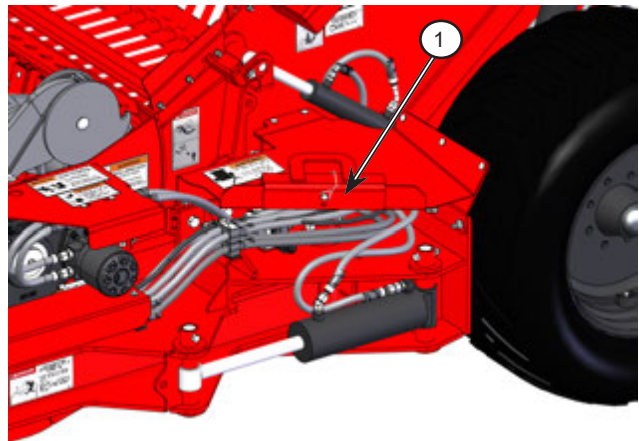

Figure 5.3: Place the hitch transport lock in the storage location
3. Place the hitch transport lock (1) into the storage location on the hitch hose guard; see *Figure 5.3*.